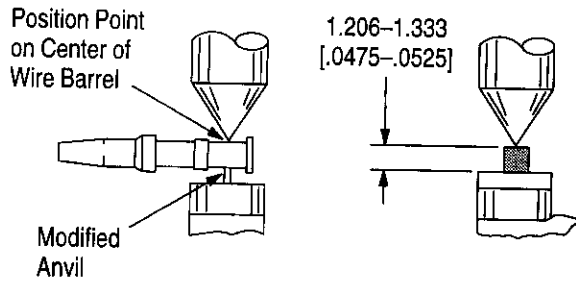

Figure 5
This tool is provided with a crimp adjustment feature. Initially, the crimp height should be verified as specified in Figures 5 and 6. Refer to Section 5, INSPECTION, and Section 6, CRIMP HEIGHT ADJUSTMENT, to verify crimp before using the tool to crimp desired connectors and wire sizes.
This inspection requires the use of a micrometer with a modified anvil as shown in Figure 5. AMP recommends the modified micrometer (Crimp Height Comparator RS-1019-5LP), which can be purchased from:
3. Using a crimp height comparator, measure the crimp height as shown in Figure 5. If the crimp height conforms to that shown, the die assembly is considered dimensionally correct. If not, return the dies to AMP for evaluation and repair (refer to Section 8, DIE REPLACEMENT).